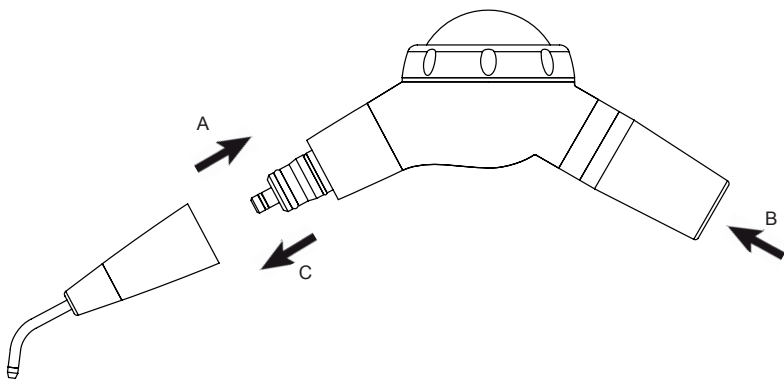

Fig. 3
- 1 Insert the front terminal of the polisher (sterile) (Fig.3 - Ref.A) so that it fits closely;
- 2 Connect Easyjet pro to the turbine of the dental unit (Fig.3 - Ref.B);
- 1 Disconnect the front terminal of the polisher from the main body of the Easyjet pro (Fig.3 - Ref.C).
- 4 Connect the front terminal of the polisher to the Easyjet pro (Fig.3 - Ref.A).
- 1 Disconnect the front terminal of the polisher from the body of the Easyjet pro (Fig.3 - Ref.C).